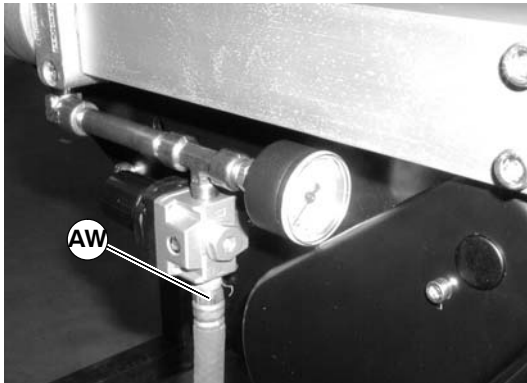

Figure 56
1. Remove air supply and remove hose (AW of Figure 56) from center drive.